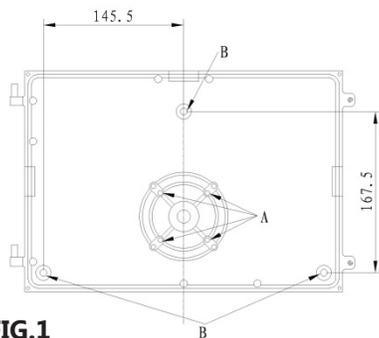
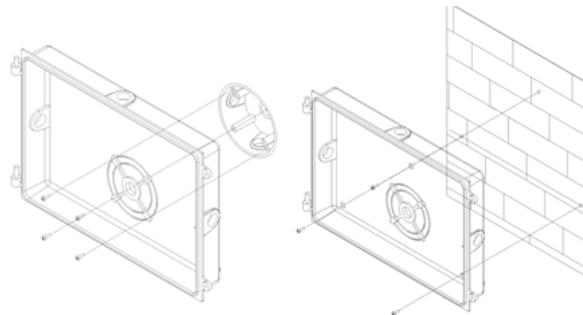

FIG.1
FIG.2
1. Open the back of the luminaire with a screw driver (FIG. 2), Refer to diagram (FIG. 1) for hole dimensions.